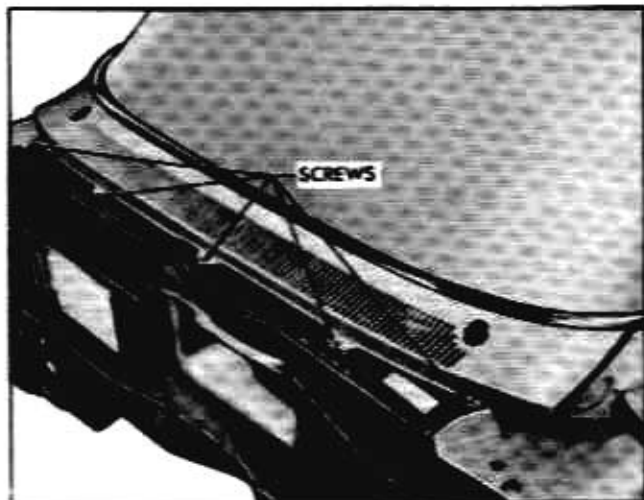

Fig. 1-3 Air Intake Grille
3. Remove air intake grille attaching screws (Fig. 1-3).